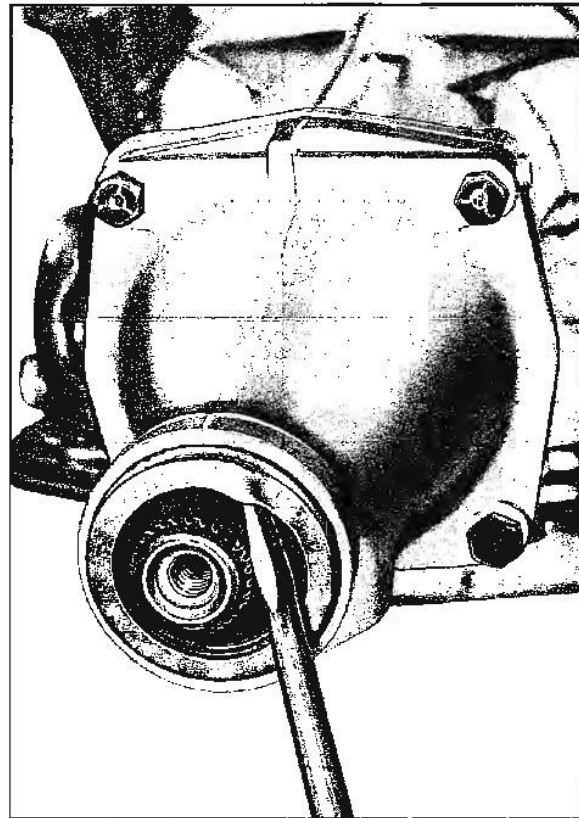

Fig. 7B-30 Removing Rear Bearing Retainer Oil Seal
3. Coat outer casing of new oil seal with gasket sealing compound and drive it into place with installer J-5154 (Fig. 7B-31).